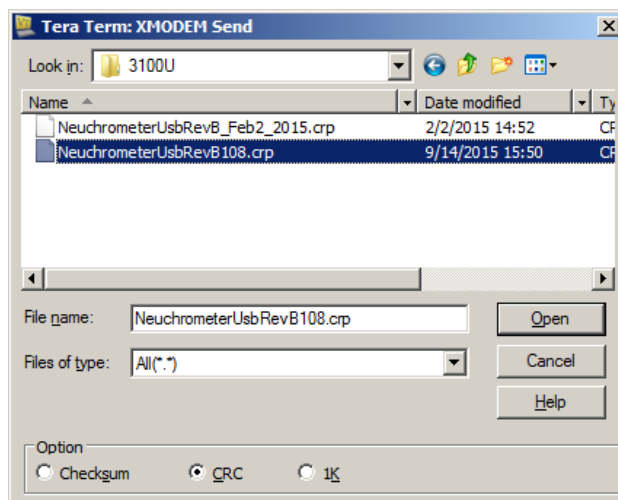
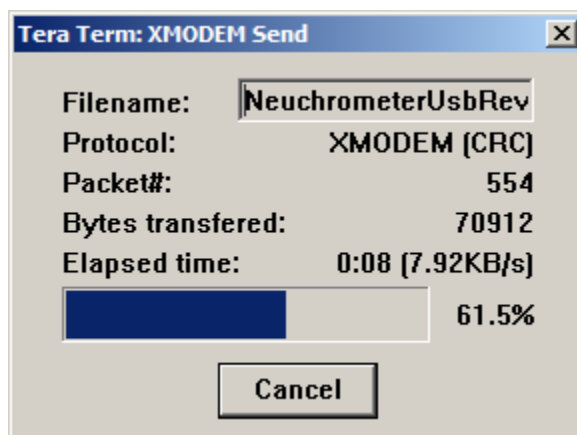

Figure 60: Tera Term XMODEM Firmware Upgrade File Selection
Figure 61: Tera Term XMODEM Firmware Upgrade Progress
->User selects File as in Figure 60: Tera Term XMODEM Firmware Upgrade File Selection
A File Selection Box of the form shown in **Figure 60** will appear.
Make sure the **CRC** radio button is selected at the bottom of the window. Navigate to the folder which contains the desired NPMXXXX firmware *.crp file and select the file. Select the **Open** command button and the firmware will be uploaded. A progress box of the form shown in **Figure 61** will be displayed.
CCCCC (User selects File as in Figure 60. Then Figure 61 will appear).
->Should show the FWVers selected in Figure 60.